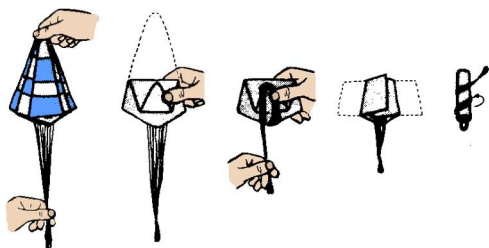

Figure 8
- **Step 22** Use the illustration in Fig. 8 to correctly fold the parachute prior to each flight. In cold climates, or during winter months, lightly dusting the parachute with fine talcum powder will help the chute open.